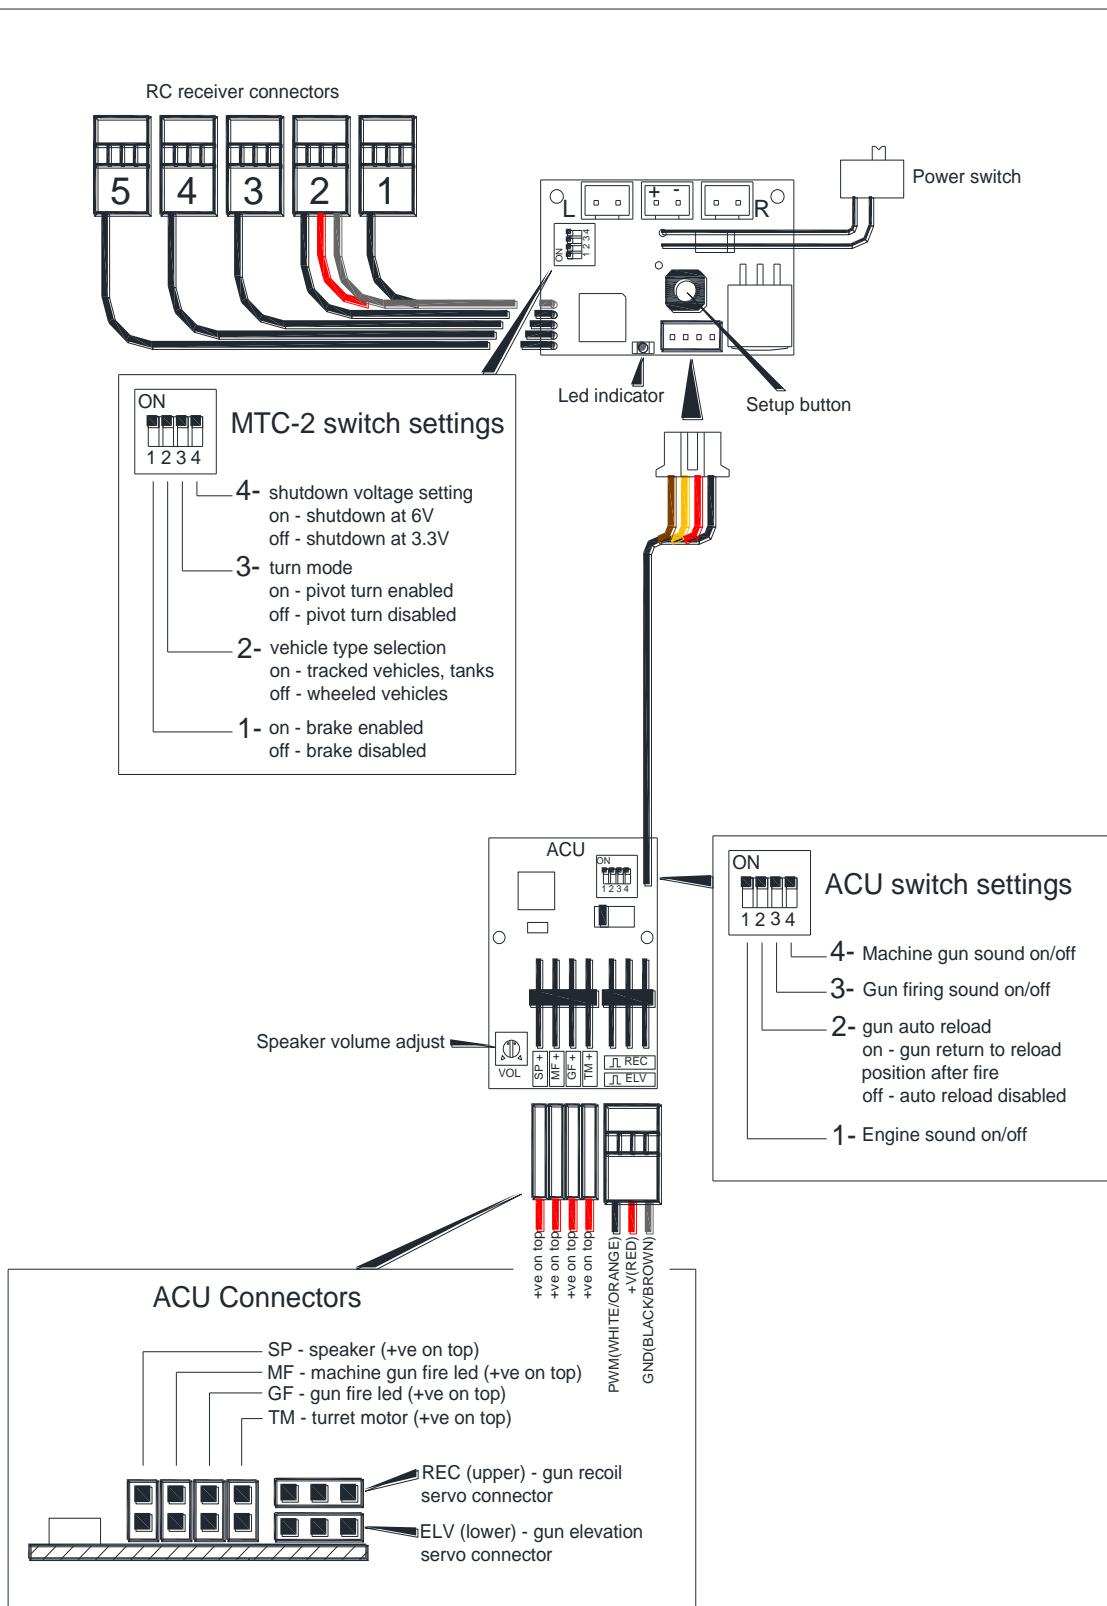

Fig.1 - MTC-2 and ACU
- Pivot turn is disabled when MTC-2 dip sw3 is set off (Fig.1).
- Both sound effects can be disabled by ACU dip sw3,4 (Fig.1).